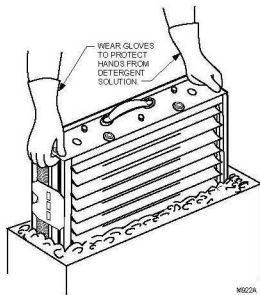

Fig. 7. Washing cells in container.
3. After detergent is completely dissolved, place cells in container and let soak for approximately 15 minutes. Agitate up and down a few times and remove. See Fig. 7.